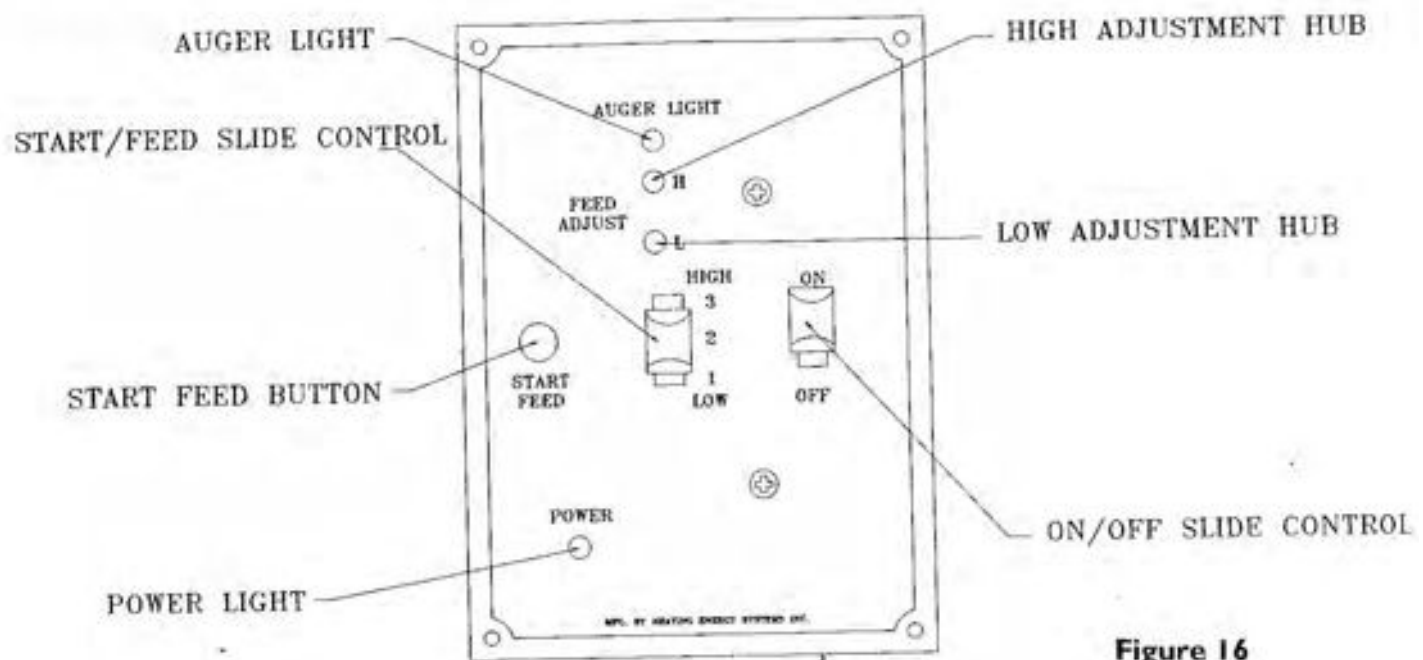

Figure 16
1. Make sure that the unit is connected to a 12 volt DC power source or a 115 volt AC power source. There is a green light located on the lower left section of the control panel, this light will stay on continuously after unit has been switched "ON" to indicate that power is getting to the unit. (See Figure 16)
5. Slide the control knob to any of the (1) "LOW" through (3) "HIGH" positions (you will hear the convection fan start to run).
6. Press and hold the start manual feed button (this will rotate the auger drive), keep the button pressed until the burn pot is approximately half full of fuel, this will insure the auger is fully primed. (See Figure 16) Empty burn pot back into hopper.